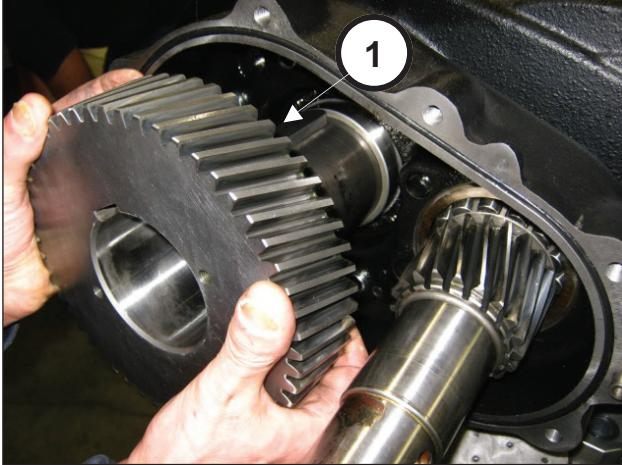
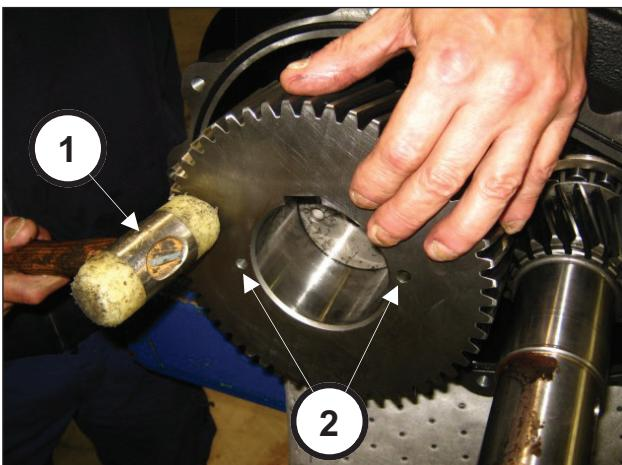

Fig. 66
Fig. 67
Insert the ring gear on the shaft (pos. ①, Fig. 66) and move it to end stroke using an extractor hammer (pos. ①, Fig. 67).
The ring gear must be assembled making sure that the two M8 holes (to be used for extraction) are facing the exterior of the pump (pos. ②, Fig. 67).